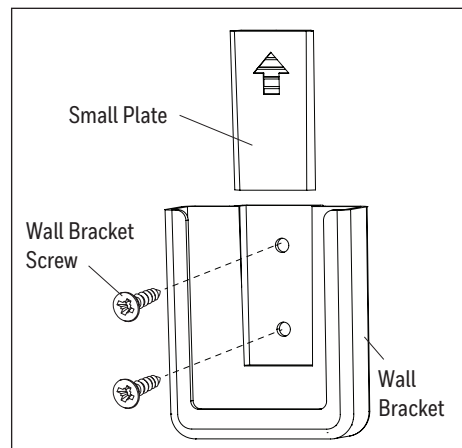

Figure 5.8
8. Remote control comes equipped with a wall bracket. If you wish to install the wall bracket, remove the small plate to expose the screw holes. Insert wall bracket screws through holes and into wall, then cover with the previously removed small plate. The remote can be stored in the wall bracket for easy access (Figure 5.8).